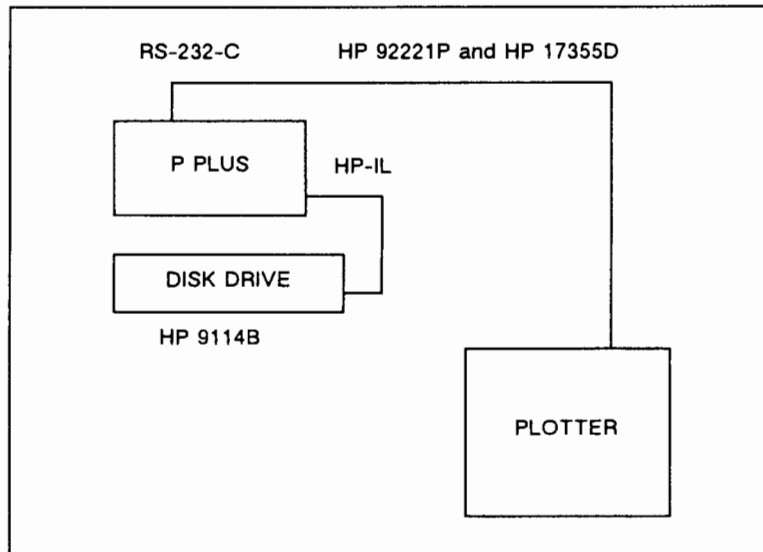

Figure 5-10. RS-232-C Test
d. Connect the Portable PLUS as shown in Figure 5-10.
- e. Turn the Portable PLUS and the disk drive ON (I). If the service disk (HP P/N C1600-60401) is not being used go to step j.